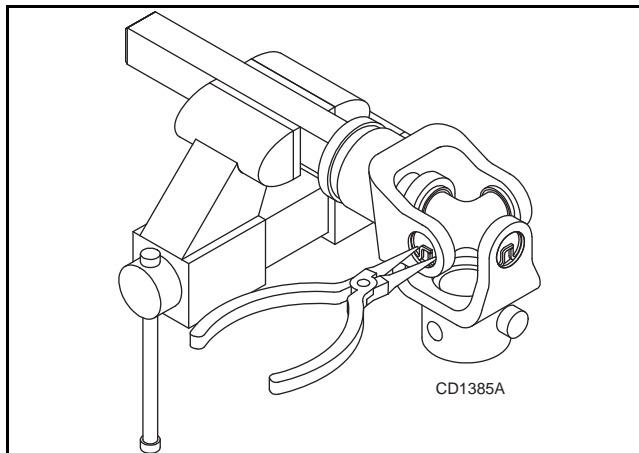

Figure 27
1. Remove external snap rings from yokes in four locations as shown in Figure 27.